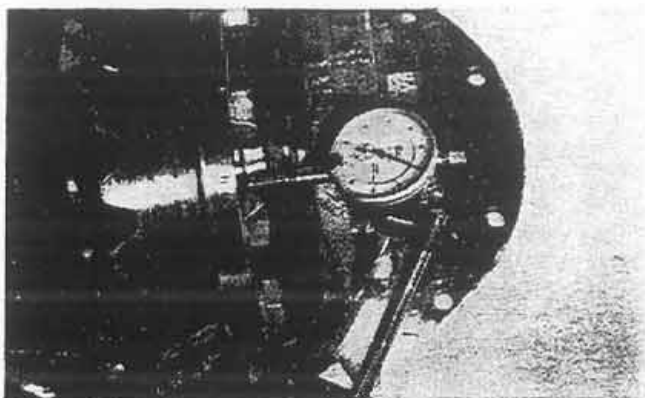

Figure 25:
Step 40. With the dial indicator in place on the side of the ring gear, adjust the nuts until the differential assembly has approximately .010"-.015" side play. Then adjust to a point where there is 0 side play (Fig. 25).